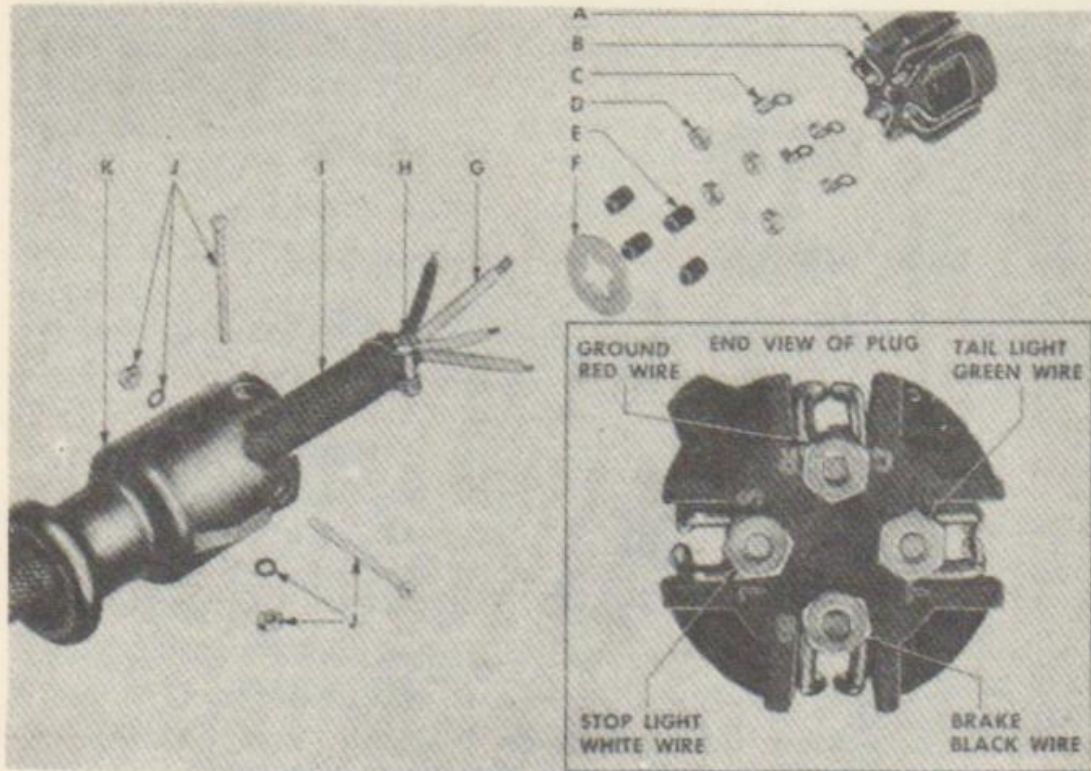

FIGURE 67. JUMPER CABLE—EXPLODED VIEW
b. Disassembly (fig. 67). Remove two bolts (J) from plug handle, and pull the handle from the plug (A). Remove nuts which hold the terminals to the plug. Unsolder wires (G) from the four terminals. Pull the insulating sleeves and insulation washer off the wires.
d. Assembly (fig. 67). Remove outer cover of cable (I) 1½ inches back from end exposing individual rubber covered wires (G). Remove insulation from wires (G) 3/16 inch back from end. Slide cable (I) through plug handle (K). Assemble cable clamp (H) as close to the end of cable as possible. Slip all wires (G) through insulating washer (F). Slide insulating sleeves (E) on wires (G). Solder terminals (C)
on wires (G), and slide insulating sleeves (E) down over soldered ends of terminals (C). Place terminals (C) on bolts (B) in plug end (A). Refer to figure 67 for wire color code and markings on plug end (A). Tighten nuts (D) down on terminals (C). Bend terminals (C) up at a 90 degree angle after tightening nuts (D). If this is not done, plug handle (K) will not slide down over wires. Slide plug handle (K) down to plug end (A). Turn plug handle (K) so bolt in cable clamp (H) will not rest on top of either of the two lugs inside of plug handle. Be sure the key on plug handle matches with key on plug end. Assemble bolts (J) through plug handle (K) and plug end (A) to hold them together.